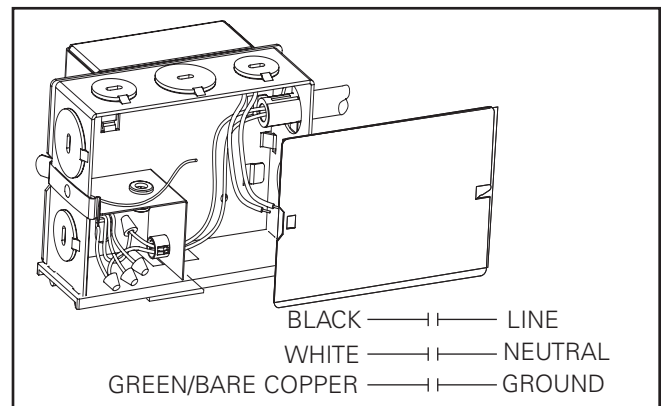

Figure 11.
- Remove junction box cover (Figure 11.).